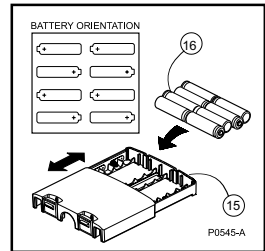

Figure 10 - Replacing the Battery Lid
c) Place 8 "AA" alkaline batteries (16) into the base of the alkaline pack (15). Ensure they are aligned as shown in figure 10 and as indicated inside the compartment.